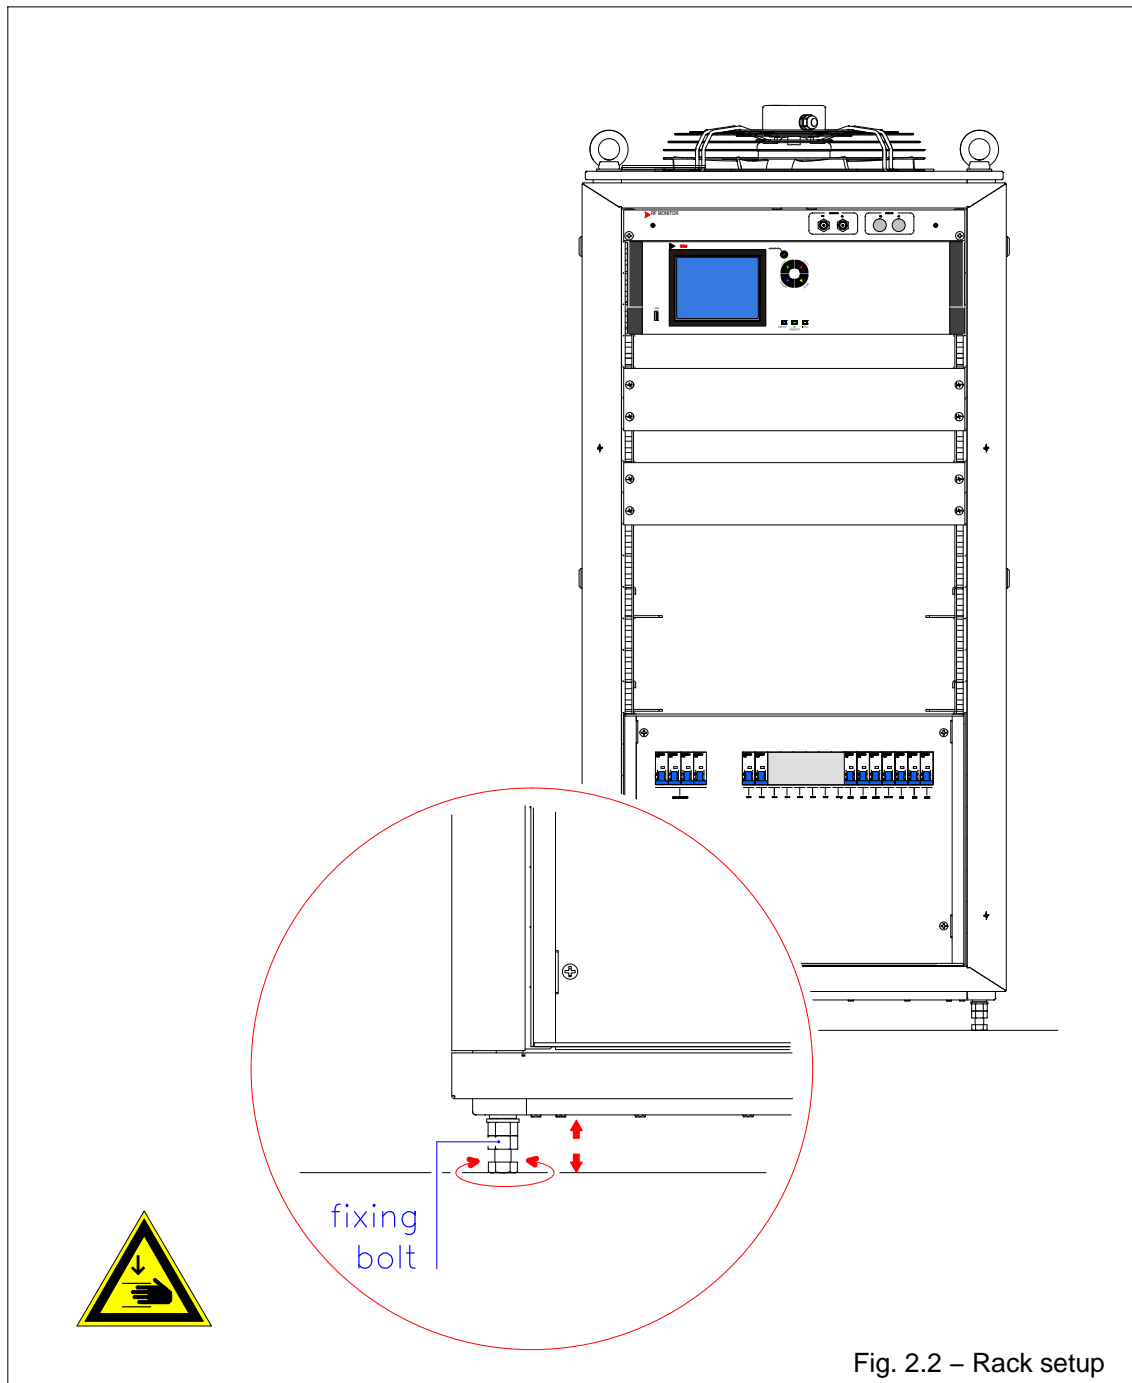

Fig. 2.2 – Rack setup
2.2.1 Racks set up (refer to Fig. 2.2)